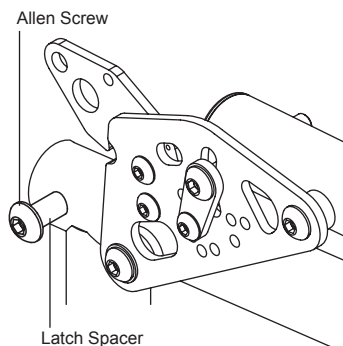

Figure 26
2. Loosen, but do not remove, the Allen Screw. See Figure 26.